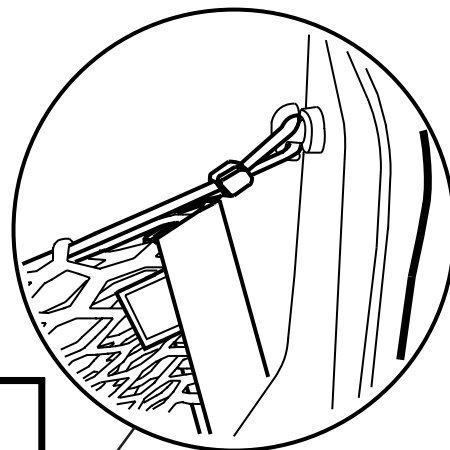
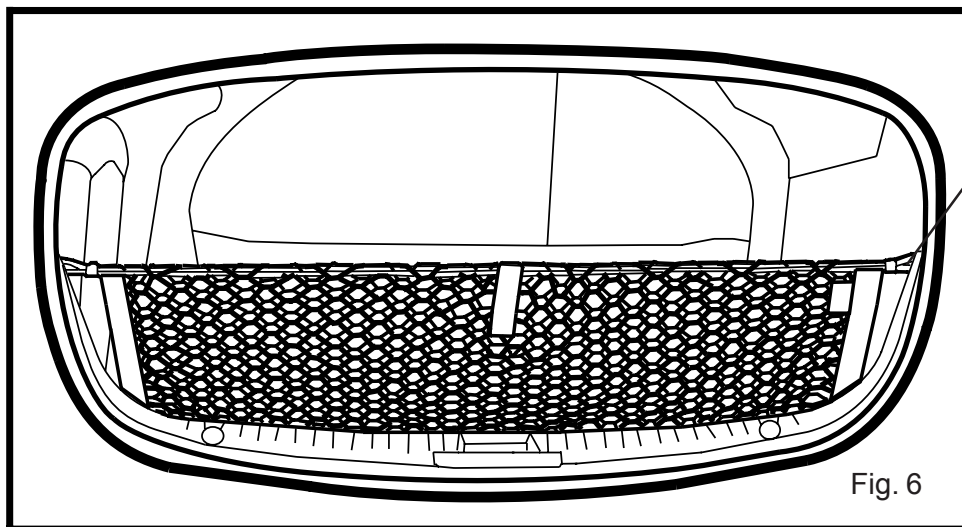

Fig. 6A
Fig. 6
9. Install the cargo net by pulling each corner bungee loop around T-Anchors. (Fig. 6A) Ensure the cargo net opening is in the up position and the pull handle is facing rearward. (Fig 6)